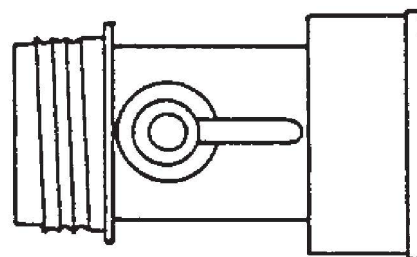

FIG. 3
4. Connect one end of the supply hose to the clean water and the other end of the hose to the water inlet connection (see Fig. 3).